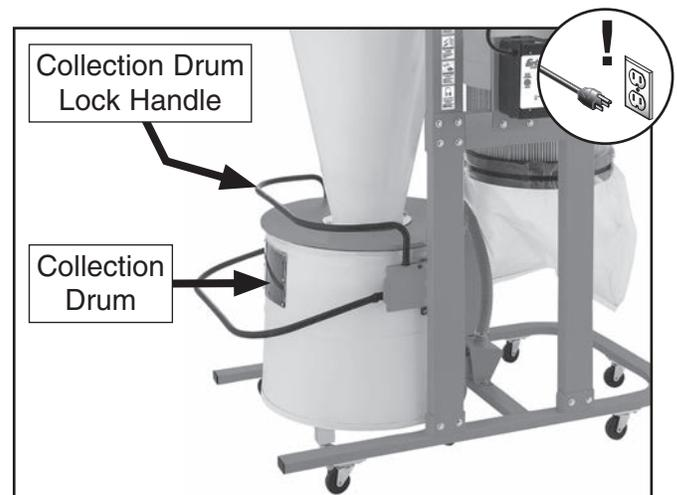

Figure 74. Collection bag components.
2. Lift collection drum lock handle, then pull drum away from machine (see **Figure 74**).